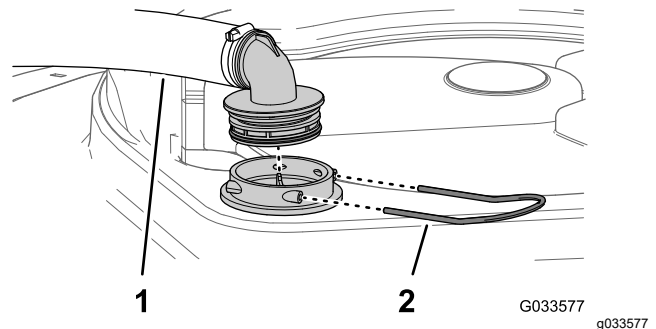

Figure 78
2. At the top of the sprayer tank, remove the retainer that secures the hose fitting attached to the large hose from the filter housing (Figure 78).
3. Remove the hose and hose fitting from the filter housing (Figure 78).